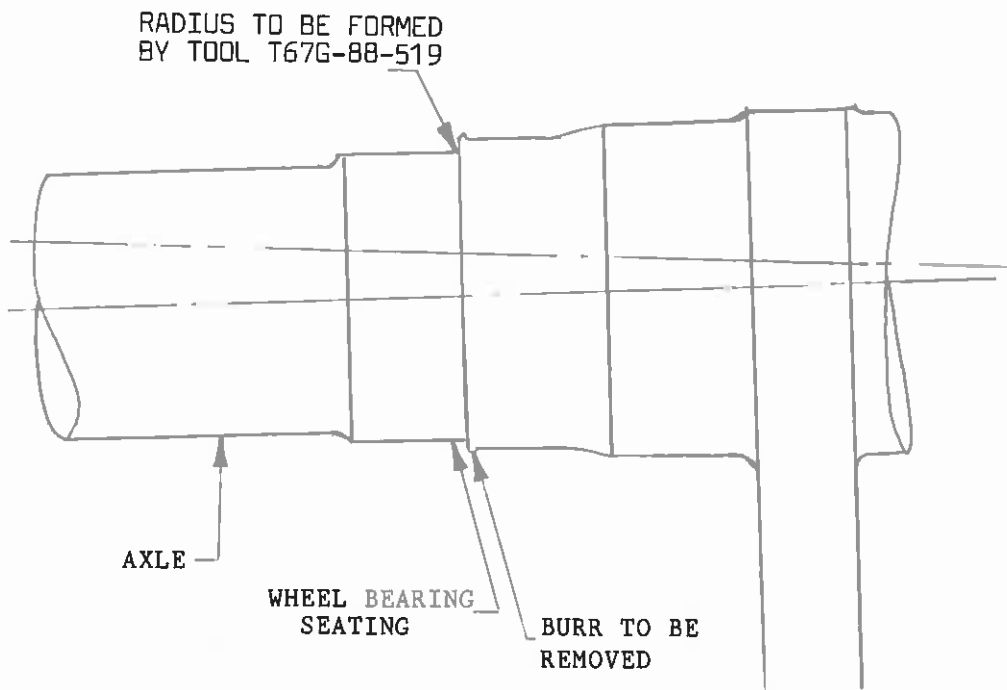

FIG 1
1. At next removal of wheel inspect axle for burring Ref. Fig. 1.
- ii) Using tool T67G-88-519 remove any burrs on inner bearing shoulder. The tool will also form corner radius at shoulder base. Ref. Fig. 1.